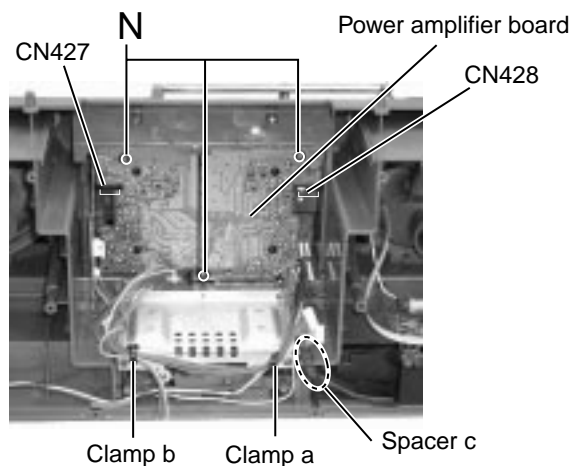

Fig.19
■ Removing the power amplifier board (See Fig.19)